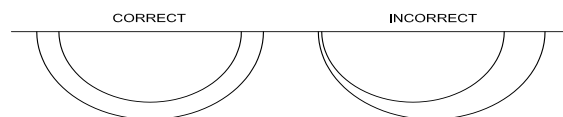

FIGURE 23
- B. Check the alignment of the unit. After cleaning the unit, always check the alignment of the punch and die section. To check the alignment, insert the punch and holder, without the springs, into the housing and check the gap. SEE FIGURE 23 BELOW.